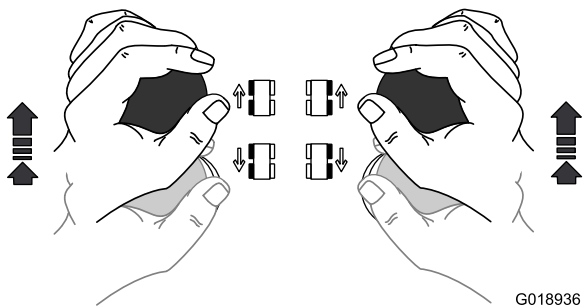

Figure 38
- To move the machine **forward**, grasp the both traction-control levers with your hands and push both levers forward (Figure 38).